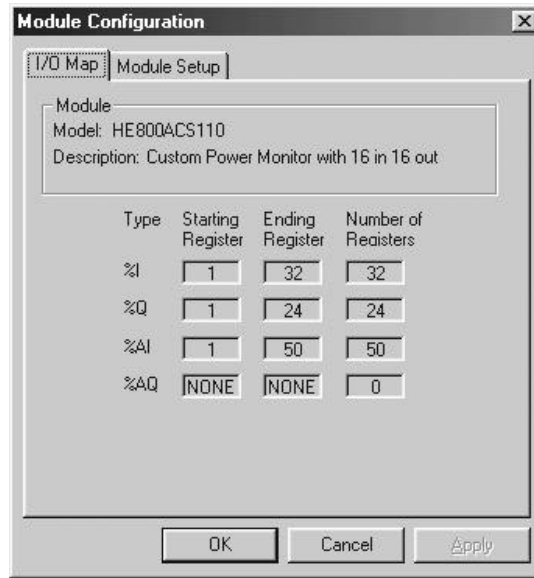

Figure 3.4 – I/O Map Tab Selected
- 5. The Module Configuration Screen appears (Figure 3.4). Two tabs are available for selection:
The **I/O Map** (Figure 3.4) describes which I/O registers are assigned to a specific ACS module. Although there are no user-defined parameters, the I/O Map can be viewed after the ACS is configured to review the registers.